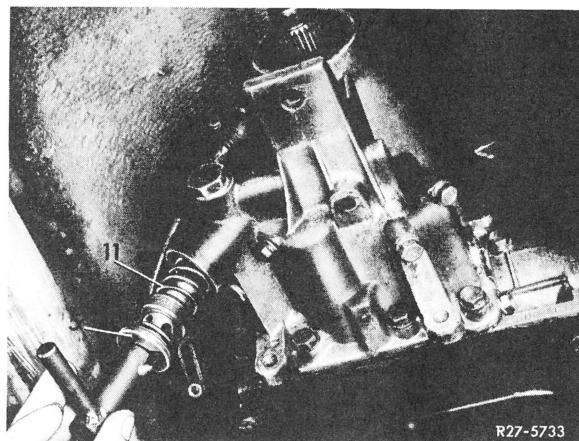

Fig. 5
- 20 Screw-in plug for secondary pump (5) together with compression spring (11) (Fig. 5).